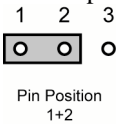

Figure 2.2 JP7 — Default Position
- **Pin 1** (left) + **Pin 2** (center) position — In this position, the analog reference is terminated with an 75ohm resistor. This configuration is to be used for point-to-point cabling, or on the last card of a daisy chain topology. This is the default position (**Figure 2.2**).